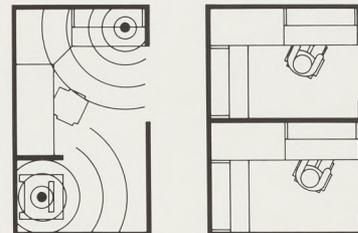

figure 12
- Keep noisy equipment near the people who use it or benefit from it the most. (See figure 12).